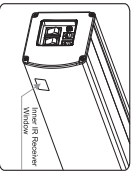

Figure 26
2. When there's nothing to keep our of the IR window, you can use the controller to control up/pause/down of the screen (Figure 26).